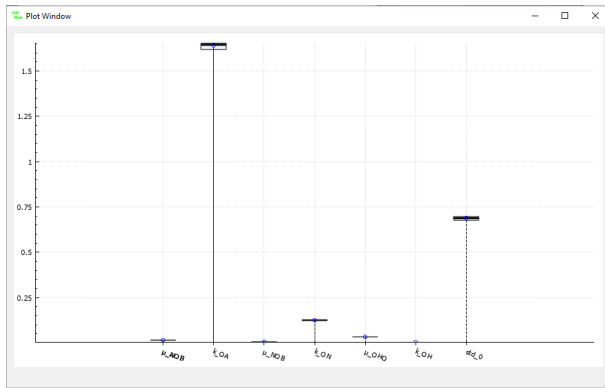

Figure 10: Posterior credible interval for all parameters
- To see the 95% credible intervals for all the parameters right-click on **Project Explorer**→**Inverse Modeling**→**Parameters** and select **Plot Percentile data** (Figure 10).